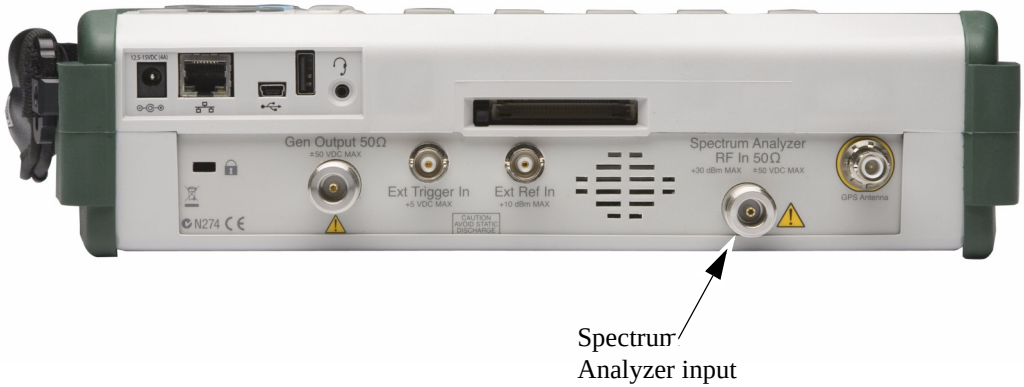

Figure 17-3. Spectrum Master Connections – Spectrum Analyzer RF in
Step 1. Attach the antenna to the Spectrum Analyzer connector on top of the instrument (refer to Figure 17-3).